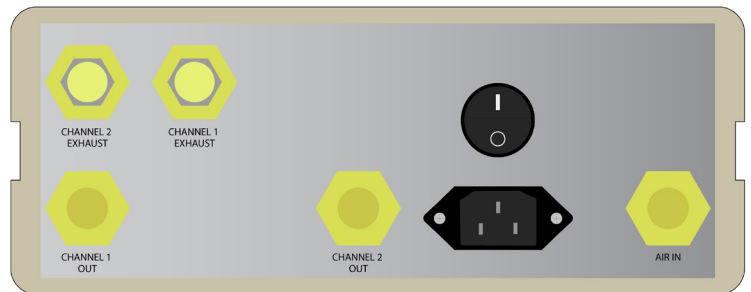

Figure 1
2. Plug in the AC power cord to the rear of the Proportion-Air Supply (Figure 1) and connect to a 120/240 VAC (50/60 Hz) power source.
3. Attach your desired fitting to the 1/4" NPT ports on the rear (Figure 1).